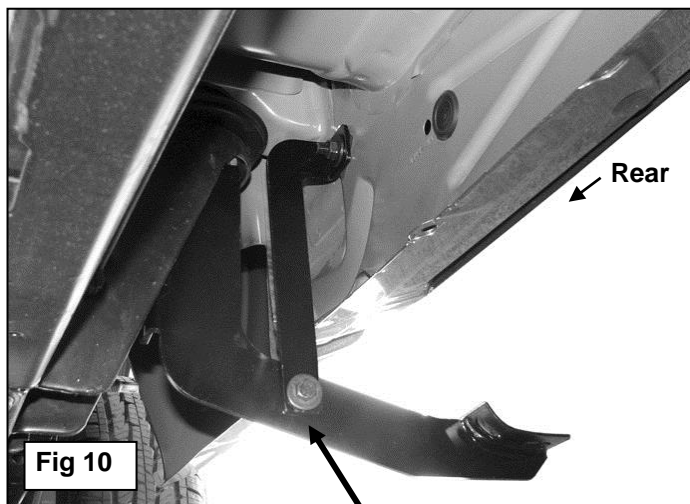

Fig 10
6. Attach the driver side rear Support Bracket to the Bolt Plate with (1) 10mm Lock Washer, (1) 10mm Flat Washer and (1) 10mm Hex Nut, (Figures 9). Bolt the lower end of the Support Bracket to the front of the Rear Bracket with (1) 10mm x 30mm Hex Bolt, (2) 10mm Flat Washers, (1) 10mm Lock Washer and (1) 10mm Hex Nut, (Figure 10). Do not tighten hardware at this time.